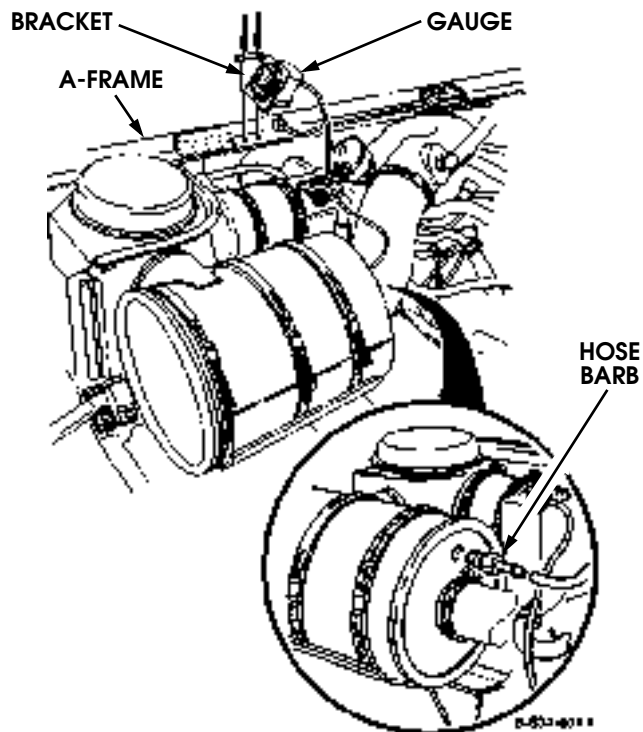

Figure 13-71: Air Filter Restriction Gauge Mounting
1. Disconnect the hose from the air restriction gauge and the hose barb in the air cleaner and remove the hose (Figure 13-71).